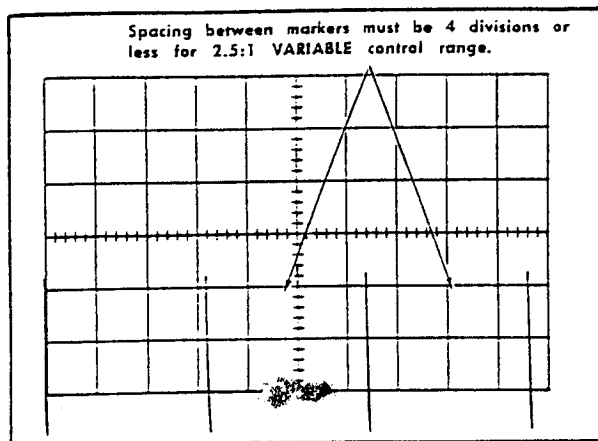

Fig. 6-50. Typical crt display when checking VARIABLE control range.
- e. Check—Crt display for 4-division maximum spacing between markers (see Fig. 6-50). UNCAL A OR B light must be on when B VARIABLE control is not in CAL position.